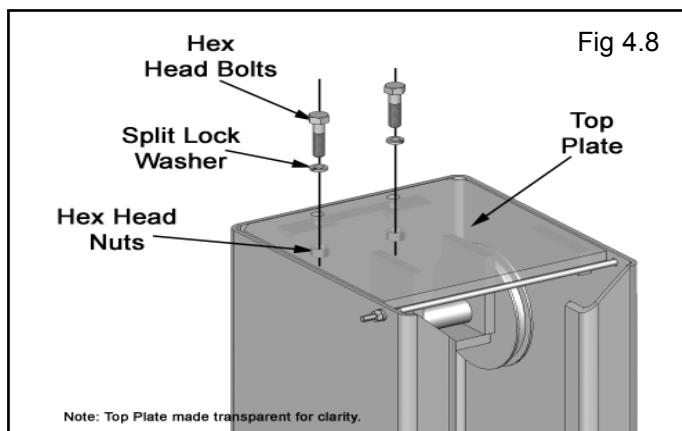

Fig 4.8
7. Bolt the Top Plate Assembly to the Column using the M10 Bolts, Washers and Nuts provided in the parts box. (See Fig 4.8)